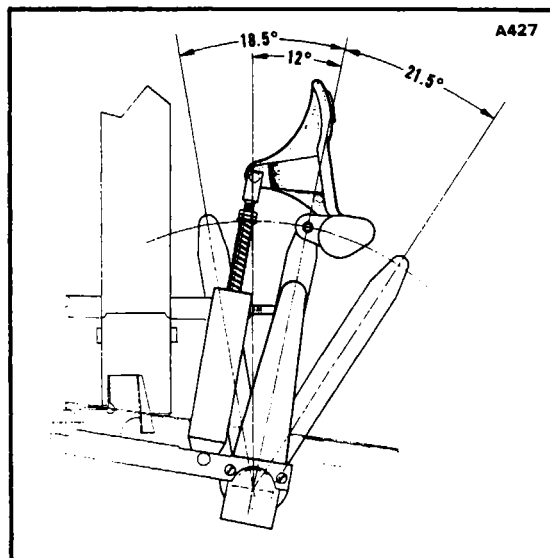

Figure 7-5. Rudder Pedals Neutral Angle
- k. Adjust the rod end bearings of each steering rod to align the nose wheel with the chalk line and to bring the rudder pedals into neutral angle fore and aft. (Refer to Figure 7-5.) The neutral angle of the pedals is 12 degrees aft of the vertical position, with the airplane level. To align the nose wheel straight forward, stand in front of the nose gear and align the center rib of the tire with the chalk line or lay a straightedge along the side of the tire and parallel the straight edge with the chalk line.
i. Adjust the rod end bearings of each steering control rod to align the plumb bob with the centerline marked on the jig and to bring the rudder pedals into neutral angle fore and aft. The neutral angle of the pedals is 12 degrees aft of the vertical position, with the airplane level. (Refer to Figure 7-5.) Do not attempt to make the adjustment by means of one bearing, but divide the adjustment between the bearings at each end of the steering rods. Check that rod ends have sufficient gripping thread by ascertaining that a wire will not go through the check hole in the rod, and then tighten locknut.